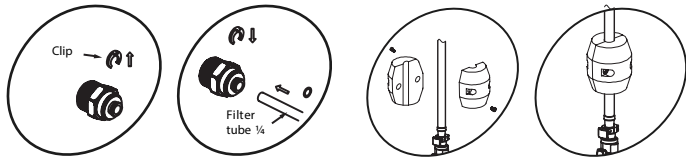

Fig. 2
4. Connect the filtered water inlet №3 with copper tube # 3 on one side and filter adapter according to Fig. 2 and the filter itself on the other side.